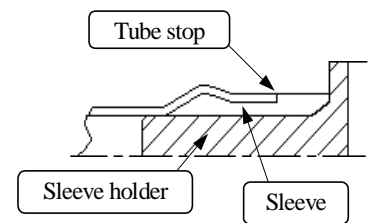

Figure 44. Sleeve insertion
- Remove the tube from the flaring tool, and insert the tube onto the sleeve until the tube end reaches the tube stop as shown in Figure 44.